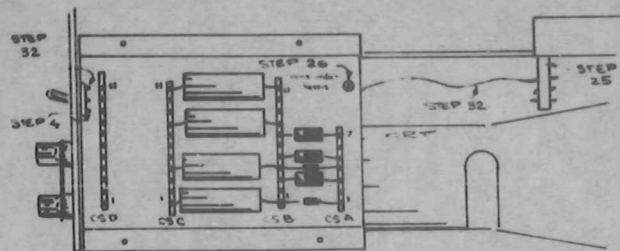

Fig. 5
- () 32. Dress the other end of this wire through the same grommet that the white wire soldered to R840 (68k, 2w resistor) is dressed through, through the bottom hole of the 3-hole post (step 24), through the bottom hole of the 2-hole post (step 28), through the grommet below the Geom Adj potentiometer and solder it to the right hand terminal of the switch mounted in step 1 or 2 (see Fig. 5, step 32).